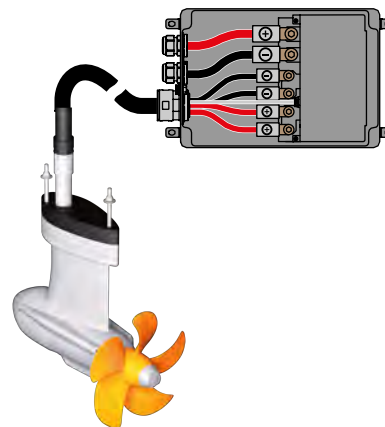

Fig. 51: Cabling of electronics box
1. Release the screws (1) of the electronics box in order to open it.
4. Connect the power cable to the respectively marked terminals (red = +, black = - ; torque 10 Nm), **see "Fig. 51: Cabling of electronics box"**.
5. Connect the motor cable to the motor control connection (6).